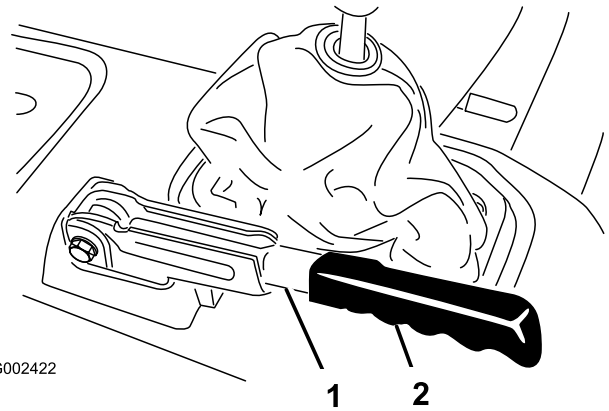

Figure 66
1. Remove the rubber grip from the parking brake lever (Figure 66).